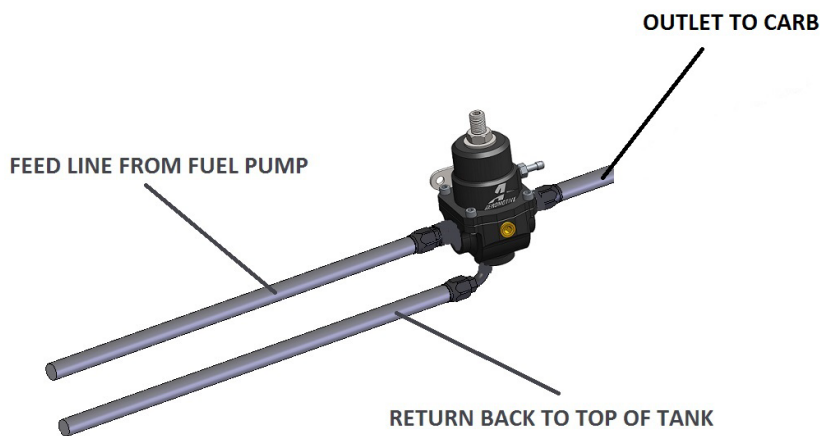

FIGURE 1-1
6. Attach the fuel supply line to the AN-08 inlet port located on either side of the regulator using a cutoff AN-08 style fitting and o-rings. Which ever AN-08 port is left, it is the outlet to the carb. **FIGURE 1-1**